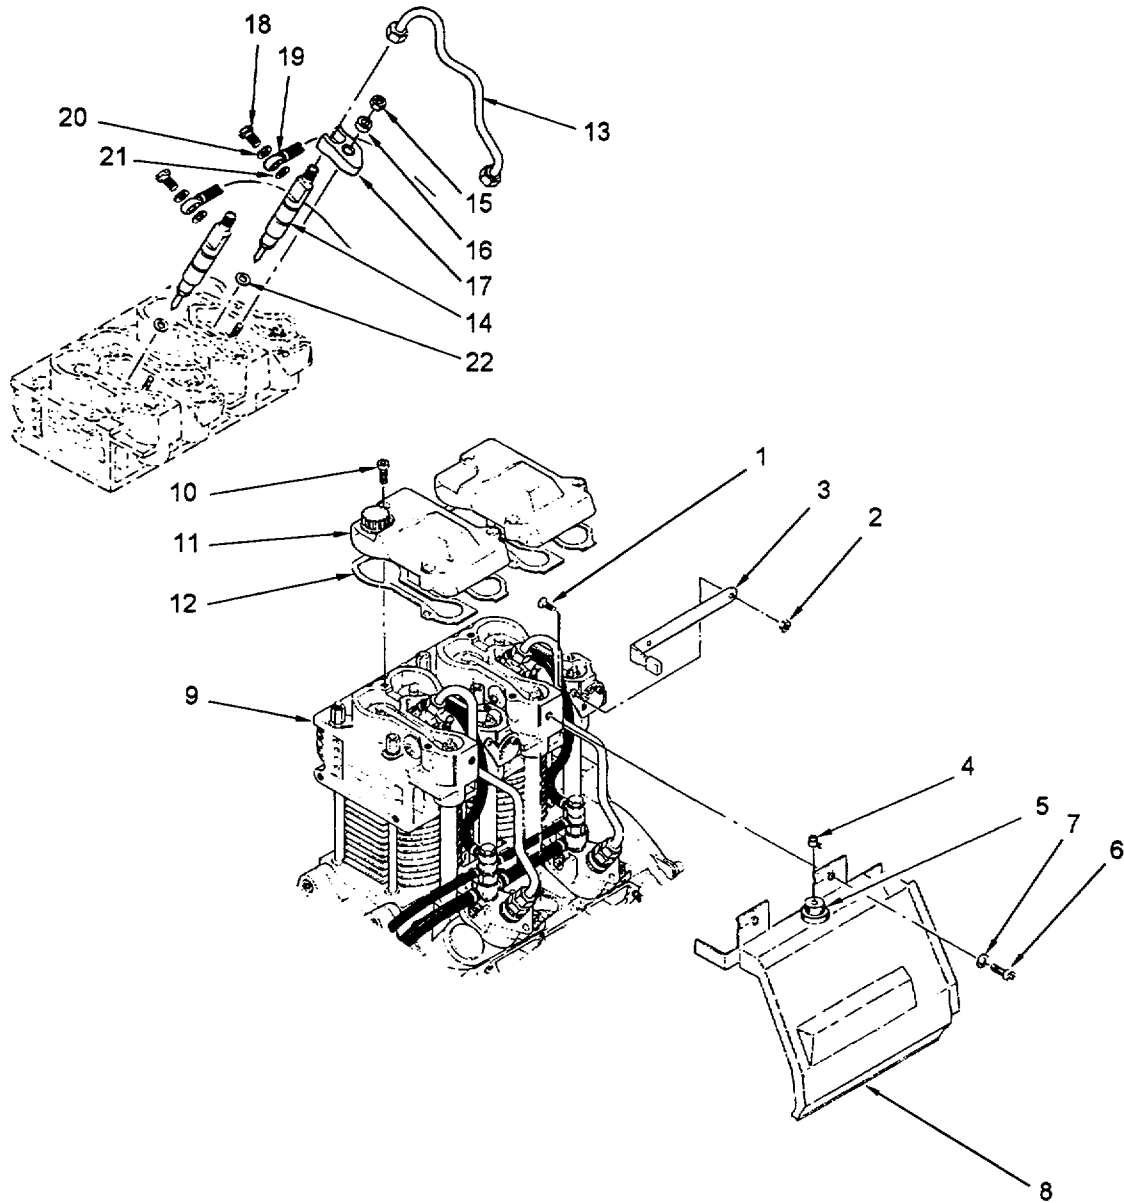
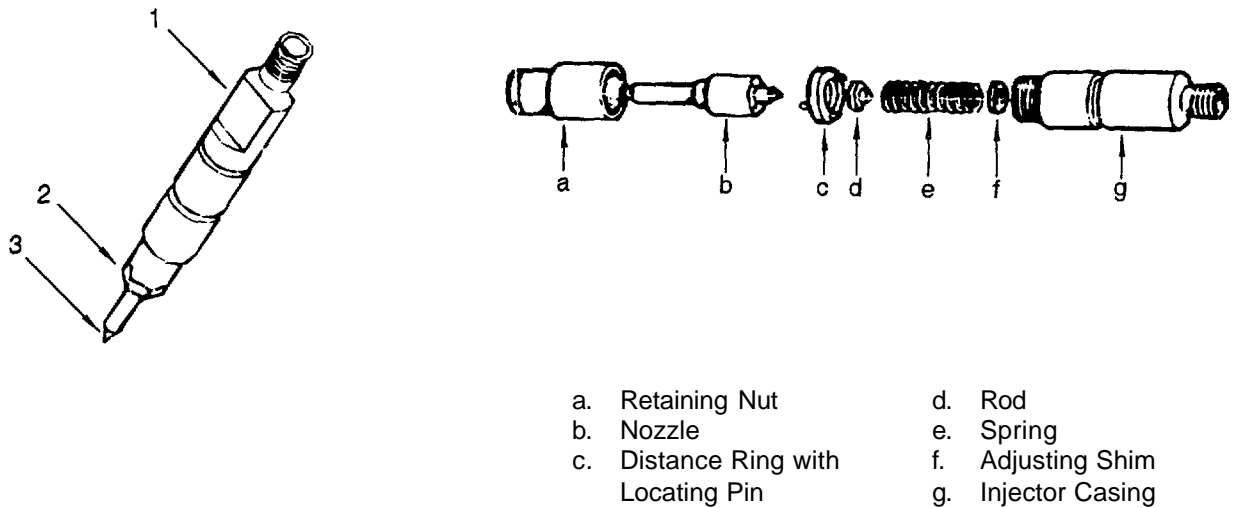

Figure 4-19. Fuel Injector Removal
Figure 4-20. Fuel Injector Nozzle Cleaning
a. Removal. (Refer to figure 4-19.)
- (1) Remove screws (1) and nuts (2) from decompression lever (3).
- (2) Remove cable clamp (4) from fuel flow solenoid wire cable at black start control knob (5).
- (3) Remove two socket head cap screws (6) and washers (7) securing cylinder casing (8) to cylinder heads (9).
- (4) Remove three socket head cap screws (10) from valve cover (11). Remove cover and gasket (12). Discard gasket (12).
- (5) Remove any remaining gasket material from the valve cover (11) and cylinder head (9).
- (6) Disconnect and remove fuel feed line (13) between fuel injector pump and fuel injector (14).
- (7) Remove brace nut (15), washer (16) and brace (17) from mounting stud.
- (8) Raise injector to access union bolt (18). Remove bolt, union (19) and washers (20) and (21). Discard washers (20 and 21).
- (9) Remove fuel injector. If copper washers (22) come out with fuel injector, remove and install in cylinder head.
b. Clean Injector. (Refer to figure 4-20.)
- (1) Clamp inlet end (1) of injector in vise.
- (2) Loosen retaining nut (2) on injector nozzle.
- (3) Carefully disassemble injector, noting order of components for reassembly.
- (4) Using a 0.01 in. (0.25 mm) steel wire, clean the four nozzle tip holes (3). Inspect holes for wear or out-of-round condition. If holes are badly deformed, replace injector.
- (5) Blow out interior of injector to remove any debris.
- (6) Assemble injector components in order noted during disassembly.
- (7) Torque nozzle retaining nut (2) to 25 ft lb (34.3 Nm).
c. Installation. (Refer to figure 4-19.)
- (1) Install and tighten union bolt (18), union (19) and new copper washers (20 - thick) and (21).
- (2) Position fuel injector (14) in cylinder head.
- (3) Install and tighten brace (17), washer (16) and nut (15) on mounting stud.
- (4) Install and tighten fuel supply line (13) on fuel injector.
- (5) Position gasket (12) on cylinder head.